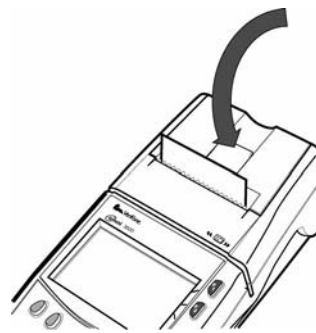

Figure 8 Close the Printer Cover
- 6 Close the cover by gently pressing directly on the paper roll cover tab until it clicks shut. Allow a small amount of paper to extend outside the cover, as shown in Figure 8.